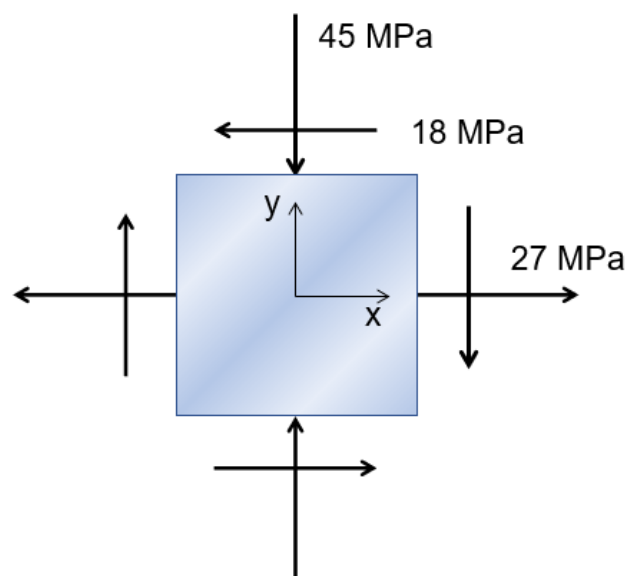

Figure 4a.5 – Stress state on an element
Consider the state of stress on an element as given below (shown in Figure 4a.5).
- (a) Determine the principal axes (calculate the angle between the x-axis shown in Figure 4a.5 and the principal axes).
- (c) Determine the orientation of the axes of minimum/maximum in-plane shearing stress (calculate the angle between the x-axis shown in Figure 4a.5 and the axes of minimum and maximum shear stress).